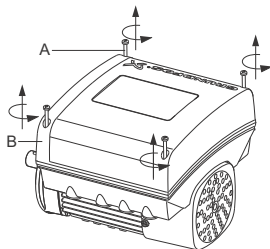

Fig. 71 Removing the terminal box cover
1. Loosen the four screws (fig. 71, A) and remove the terminal box cover (fig. 71, B).
- 11. Fit the terminal box cover (fig. 71, B) and cross-tighten the four mounting screws (fig. 71, A) to 6 Nm.